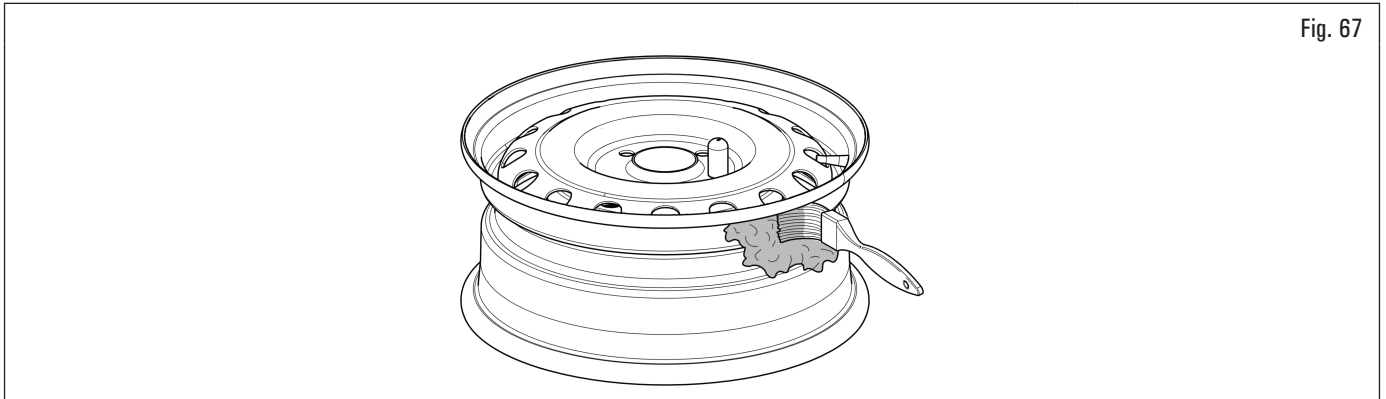

Fig. 67
1. Generously grease the rim, taking care to keep the valve clean and not greased (Fig. 67);